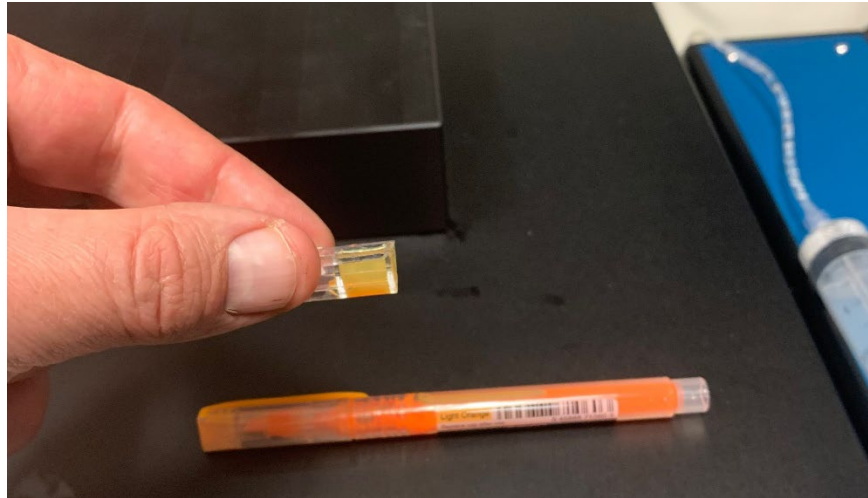

Figure 1. Orange highlighter as a fluorescent dye.
1) Turn on the power strip and fill an Ibidi chamber with water + highlighter (**Fig 1**) or with phenol red media. Place chamber in TL3D and move into the objective FOV.